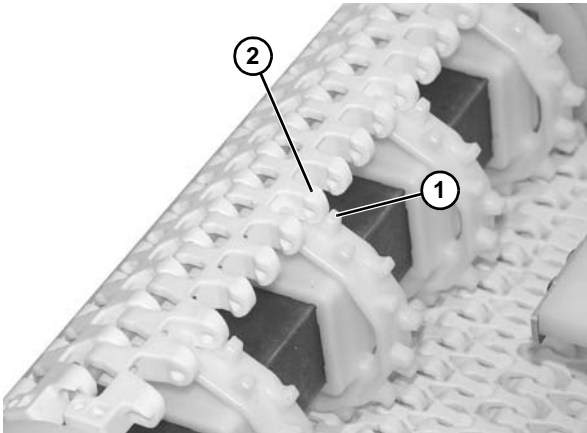

**Figure 13**
2. Wrap belt around idler tail (**Figure 13, item 1**).
3. Install belt around lower frame section and above lower wear strips (**Figure 13, item 2**).